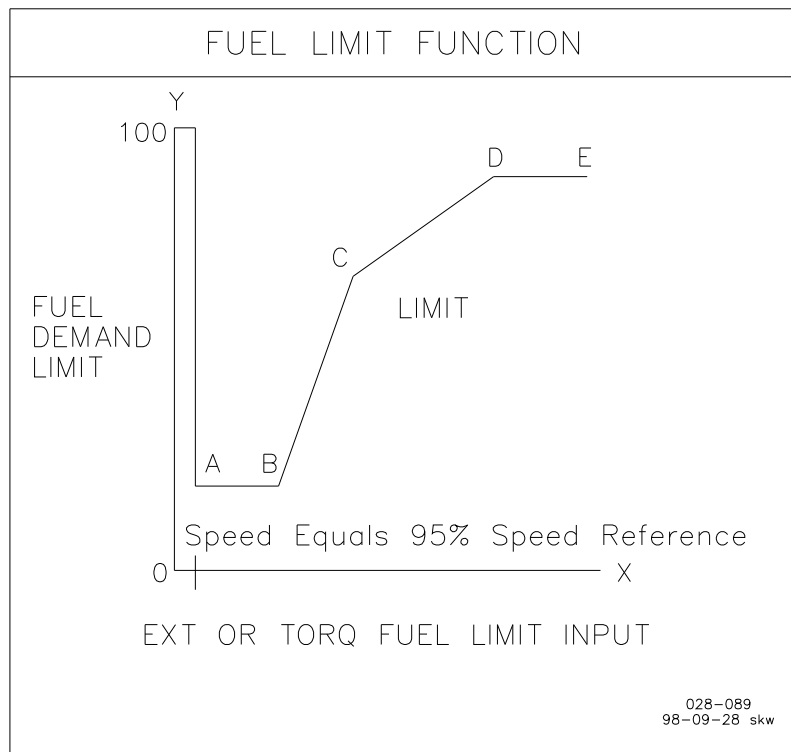

Figure 3-8. Fuel Limit Breakpoints
A five-point curve is constructed for rpm versus Fuel Demand. Refer to Figure 3-8. The 'X' values are the Breakpoints and the 'Y' values are the Fuel Limit at the Breakpoints. All values between the designated breakpoints are interpolated.
2. **TORQUE LMT BRKPNT X** is the engine speed, in RPM, that designates that particular breakpoint (x-axis input in Figure 3-8).
3. **FUEL LIMIT @ BRKPT X** is the percent fuel demand allowed when the engine speed is at that respective Breakpoint (y-axis output in Figure 3-8).
A five-point curve is constructed using the engine builders recommended settings for AMP versus Fuel Demand. Refer to Figure 3-8. The 'X' values are the Breakpoints and the 'Y' values are the Fuel Limit at the Breakpoints. All values between the designated breakpoints are interpolated.
2. **AMP LMT INPUT X** is the Air Manifold Pressure value, in engineering units, that designates that particular breakpoint (x-axis input in Figure 3-8).
3. **FUEL LIMIT @ X** is the percent fuel demand allowed when the Air Manifold Pressure is at that respective Breakpoint (y-axis output in Figure 3-8).